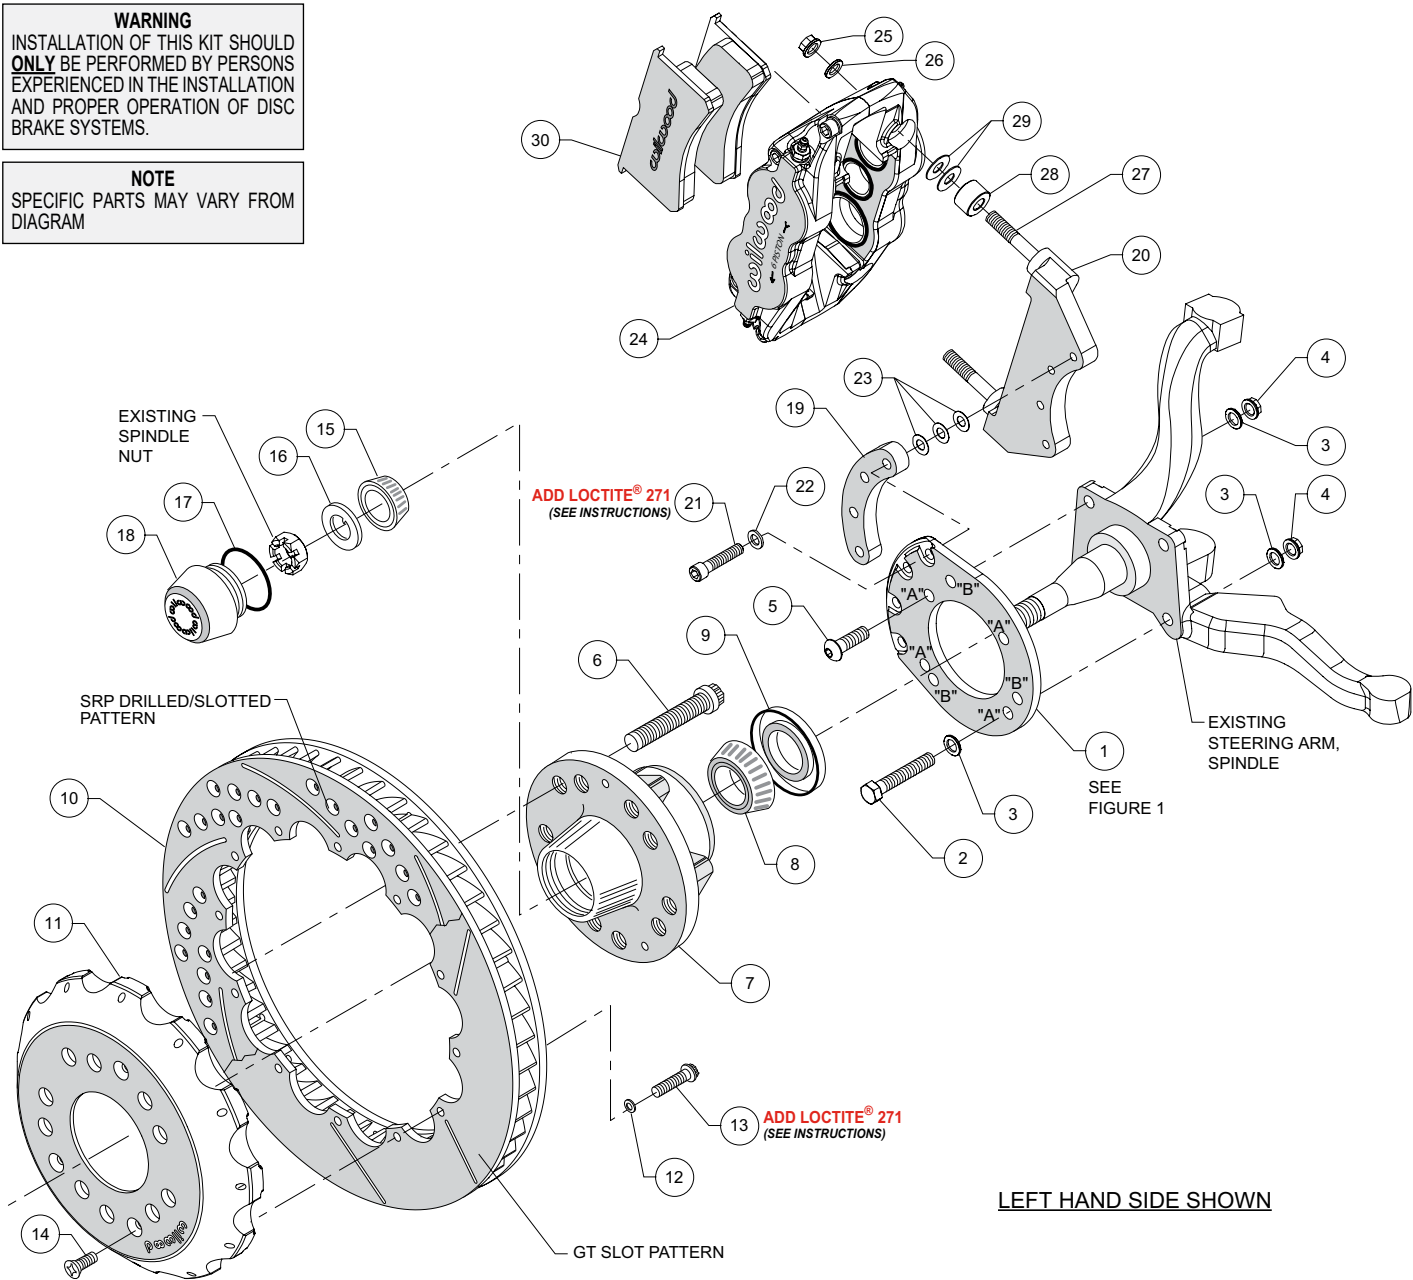
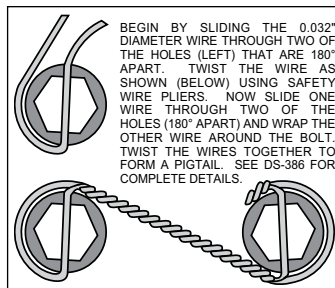

Figure 2. Typical Installation Configuration
Figure 4. Safety Wire
•**NOTE:** Numbers in parenthesis refer to the parts list and Figure 2 on the preceding pages.
•Align bracket, using the four "A" holes, to the face of the spindle and attach using bolts (2 and 5), washers (3), and lock nuts (4), as shown in Figure 2 and Photo 1. Temporarily tighten the mounting bolts. **NOTE:** The bracket must fit squarely against the mounting points on the spindle. Inspect for interference from casting irregularities, machining ridges, burrs, etc. Torque lock nuts (4) to 30 ft-lb.
•Install wheel studs (6) into the hub (7), Photo 2. Torque to 77 ft-lb. **NOTE:** There are two five lug patterns in the hub (5 x 4.50 and 5 x 4.75). Ensure the correct hub stud pattern is being used to fit the wheel application.
•Pack the large inner bearing cone (8) with high temperature disc brake bearing grease (available from your local auto parts store) and install into the backside of the hub (7), Photo 3.
•Install the grease seal (9) by pressing into the backside of the hub (7), flush with the end of the hub, Photo 3.
•Pack the small outer bearing cone (15) with high temperature disc brake bearing grease and install into hub (7). Slide the hub assembly onto the spindle. Secure using spindle washer (16) and OEM spindle nut, Photo 4. Adjust bearings per OEM specifications. Install saved OEM nut lock (if any) and a new cotter pin (not included).
•Screw dust cap (18) into hub (7), Photo 5. Friction created by the o-ring (17) on the dust cap keeps it from unscrewing. **NOTE:** The O.D. of the existing OEM spindle washer may be larger than the I.D. of the dust cap not allowing it to seat against the hub face. Therefore, use the spindle washer (16) supplied with the kit instead of the OEM washer.
•Orient the rotor (10) and the hat (11) as shown in Figure 2 and Photo 6. Attach rotor to hat using bolts (13) and washers (12). Apply red *Loctite*® 271 to the bolt threads and torque to 155 in-lb using a criss-cross pattern. For an added measure of security, the bolts may be safety wired using standard 0.032 inch diameter stainless steel safety wire as shown in Figure 4. Refer
- Attach the caliper mounting bracket (20) to the spindle bracket (1) using bolts (21), washers (22), and spacer (19) as shown in Figure 2 and Photo 7. Initially place three .015" thick shims (23) on each bolt between the spacer and the caliper bracket. Temporarily tighten the mounting bolts. Later, after the caliper alignment has been checked, the mount bolts will be secured using red *Loctite*® 271.
- NOTE:** *This kit contains distinct right and left hand calipers that must be mounted in a specific direction, as described below.* Initially place two .035" thick shims (29) and spacer (28) on each stud between the caliper and the bracket, as shown in Figure 2 and Photo 8. Mount the caliper (24) onto the bracket (20) using lock nuts (25) and washers (26), Figure 2. Ensure that the caliper is mounted so the largest pistons are at the rotor exit end of the caliper, in relation to the direction of rotor rotation. Temporarily tighten the lock nuts and view the rotor through the top opening of the caliper. The rotor should be centered in the caliper, Photo 9. If not, adjust by adding or subtracting shims (23) between the caliper bracket (20) and the spacer (19). Always use the same amount of shims on each of the four mounting bolts. Once the caliper alignment is correct, remove the bracket mounting bolts one at a time, apply red *Loctite*® 271 to the threads, and torque to 30 ft-lb.